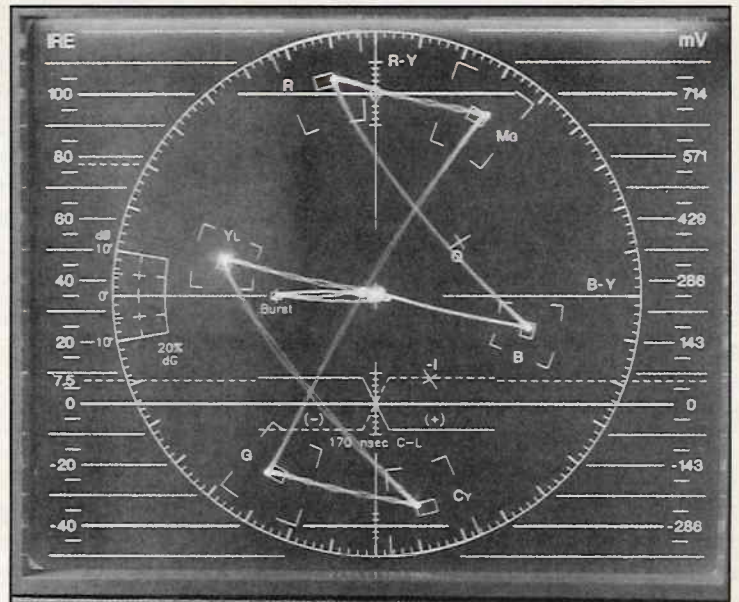

Fig. 12: A vector display compares the phase of the burst signal to any other colors produced.
**Chroma Phase:** Each chroma hue scanned by a video camera produces a different phase 3.58 MHz chroma output signal. Chroma signal phase angles are normally measured on a vector display (Fig. 12). This type of display compares the phase of the burst reference signal (on the left display axis) to any other colors which are produced. For the entire time that a camera is scanning a colored object with uniform saturation and hue, it should be producing a chroma output signal with constant amplitude and phase. If it does, the vector display will show a single small dot representing the entire colored object.
When a video camera scans the three primary and the three secondary colors, it would ideally produce chroma signals with the phase angles shown in Fig. 12. The chroma phase angles are usually measured counterclockwise from the right-hand, positive B-Y axis, although various camera manufacturers have used other measurement methods. Since pinkish to orange flesh tones fall between yellow and red, camera manufacturers strive to produce those colors most accurately.